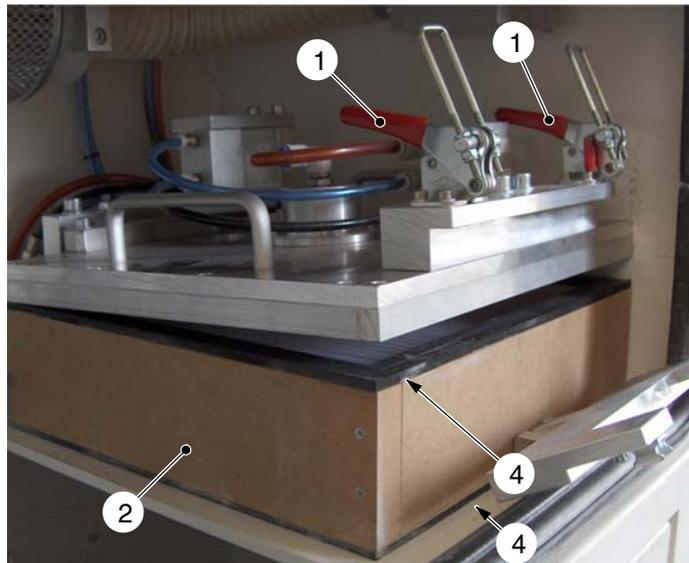

Fig. 5-3
NOTE: A spare parts kit with four seals (4, Fig. 5-3) can be ordered if the main filter cassette seals have detached (Fig. 5-2) (Refer to separate parts list).
3. Release all of the locks (1, Fig. 5-3); fold back the front one.